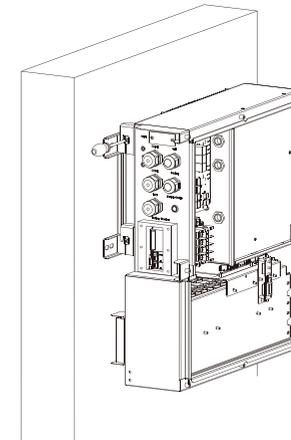

Figure 2.12 Fix Storion-SMILE-B3 to the Wall Bracket
Step 7 Use a T20 screwdriver and M4*12 screws in the package to fix Storion-SMILE-B3 to the wall bracket, as shown in Figure 2.12.